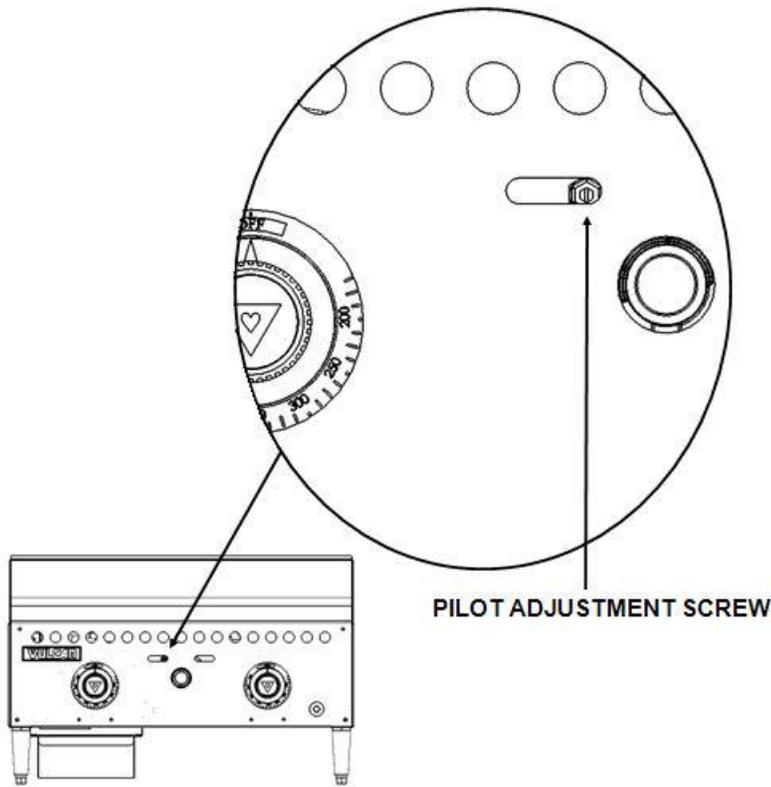

Fig. 6
4. When the gas at the pilot has been burning for about 45 seconds, release the safety valve button. If the pilot does not remain lit, repeat the operation allowing more time before releasing the button. The amount of time necessary to hold the safety valve button will increase at the initial installation of the unit and if the main gas supply has been turned off for a long period of time. It may be necessary to adjust the pilot valve to increase gas to the pilot. See Fig. 6 on page 12.
Using a flathead screwdriver, turn the slotted hex-head pilot adjustment screw clockwise to decrease the flame, and counterclockwise to increase the flame. See Fig. 6.